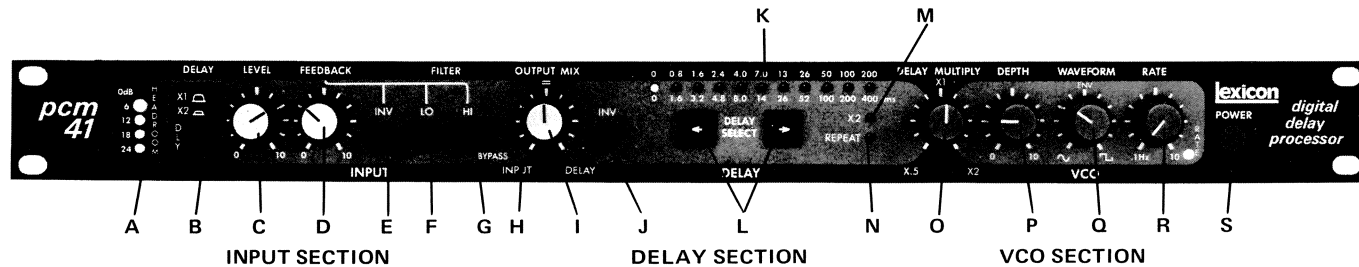

Figure 2-1 – PCM 41 Front Panel
The DLY X1/X2 switch determines whether the PCM 41 is in the short time delay range (X1) or the long range (X2). When the button is out, the unit is set for the short range (0-200 ms) and 16 kHz bandwidth. Engaging the button selects the long range (0-400 ms), 6 kHz bandwidth, and illuminates the X2 LED [Fig. 2-1, "M"].
The INPUT LEVEL control adjusts the input gain for properly matching the PCM 41's sensitivity to the input signal. Set this control so that the HEADROOM display [Fig. 2-1, "A"] occasionally indicates "0 dB" on program peaks, with average levels at about "-12 dB" (in the green display zone).
Engaging the DELAYED AUDIO INVERT button (INV) reverses the polarity of the delayed sound which is fed to the OUTPUT MIX control [Fig. 2-1, "I"].
**NOTE:** The set delay time is only a nominal value, applicable when no VCO modulation is used, and when the DELAY MULTIPLY control [Fig. 2-1, "O"] is centered. DELAY MULTIPLY (and/or the VCO) can halve the actual delay, or double it — to a maximum of 800 ms when the unit is in DLY X2 mode and the 400 ms LED is illuminated.
This LED is illuminated whenever the X1/X2 DLY button [Fig. 2-1, "B"] is engaged (i.e., when the long delay range is selected). The LED is a visible reminder to refer to the lower scale of the DELAY TIME DISPLAY.
**NOTE:** The "X1" and "X2" on this control should not be confused with the "X1" and "X2" on the DLY RANGE switch [Fig. 2-1, "B"]. Switching DLY RANGE from X1 to X2 changes the overall mode of the delay line from a maximum nominal delay of 200 ms to a maximum nominal delay of 400 ms with reduced signal bandwidth. Adjusting the DELAY MULTIPLY control from center (X1) to full clockwise (X2) modifies the voltage fed to the clock, which adds to the set delay, up to a maximum of 400 ms or 800 ms. Turning DELAY MULTIPLY counterclockwise from X1 to X.5 reduces the actual delay to half the set value.